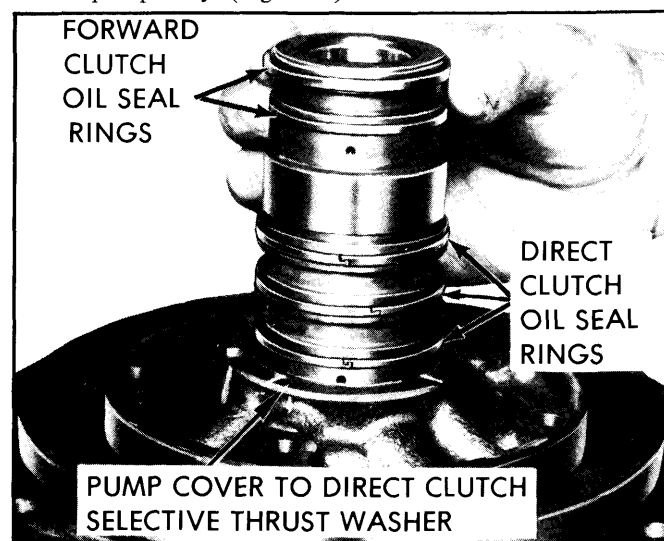

Fig. 7-61—Pump Hub Oil Seal Rings
3. Remove (2) forward clutch to pump hub hook type oil seal rings and (3) direct clutch to pump hub type oil rings. (Fig. 7-61)